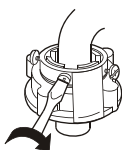

Figure 4
3. Fasten the four screws of the water inlet hose jointer evenly. See to Figure 4.